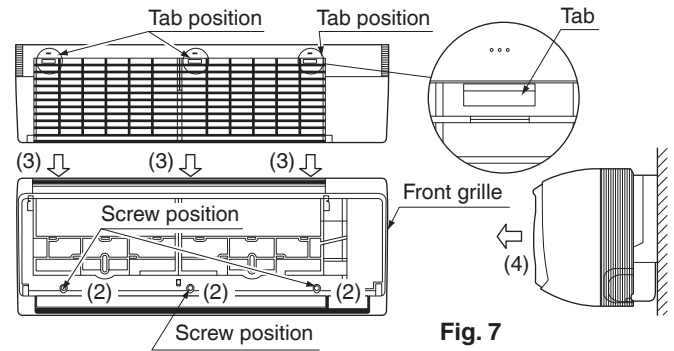

Fig. 7
- Remove the front grille. (Refer to Fig. 7)
- At this time remove the buffering material placed in step (6).